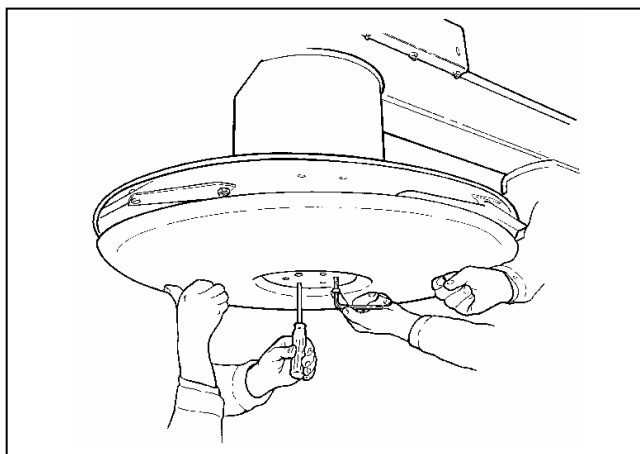

Fig. 16
**FIG. 16** Some CM 1900 has from the factory been provided with either low or high guide shoes. The stubble height can be adjusted with a 10 mm intermediate washer which is supplied with the machine and placed between the rotor and the guide shoe.